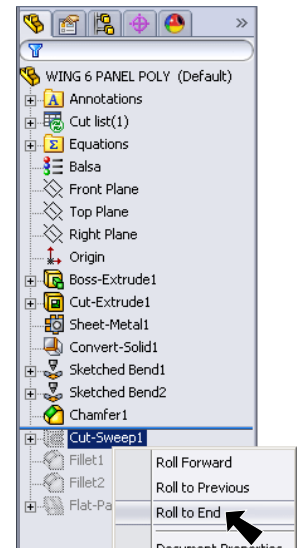

Fig. 63
Step 5. **Right click Cut-Sweep1** in the Feature Manager and click **Roll to end** from menu, **Fig. 63**.